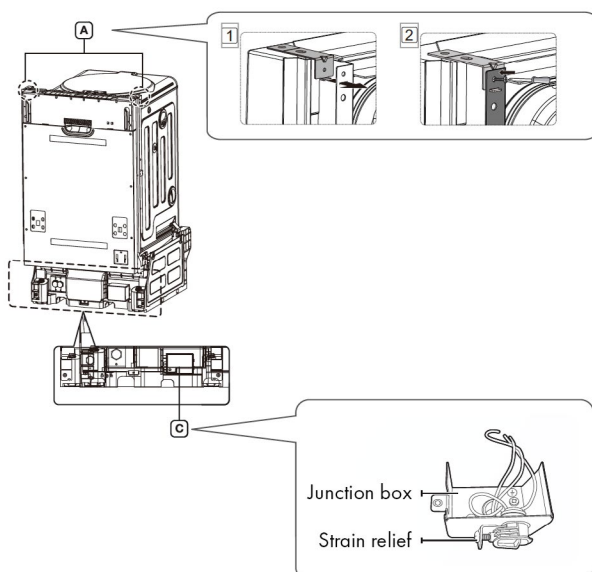

Figure 4
3. Remove the junction box cover located at the bottom front right of the dishwasher using a screwdriver, and then install the strain relief (see Figure 4 - C). Make sure to keep the junction box cover; it is used in Step 11, Wiring Connections (see Page 20).
4. If the countertop is made of wood or a material not damaged by drilling, attach the two installation brackets supplied with the dishwasher using the supplied screws (see Figure 4 - A). They will be used in Step 9, Securing the Dishwasher (see Page 16).